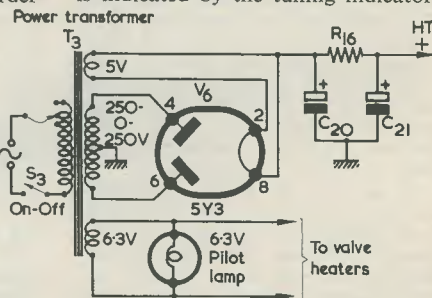

Fig. 7. The power supply circuit
**Components List (Fig. 7)**
The power supply circuit appears in Fig. 7. This is quite conventional and employs standard components. A double-wound mains transformer is used, this being essential for an instrument of this nature in order